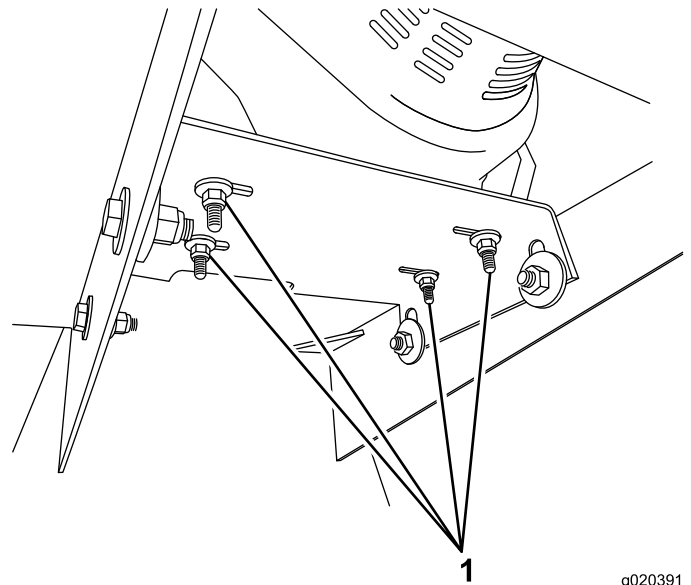

Figure 43
2. Loosen the 4 nuts and bolts that secure the engine to the engine mounting plate (Figure 43).